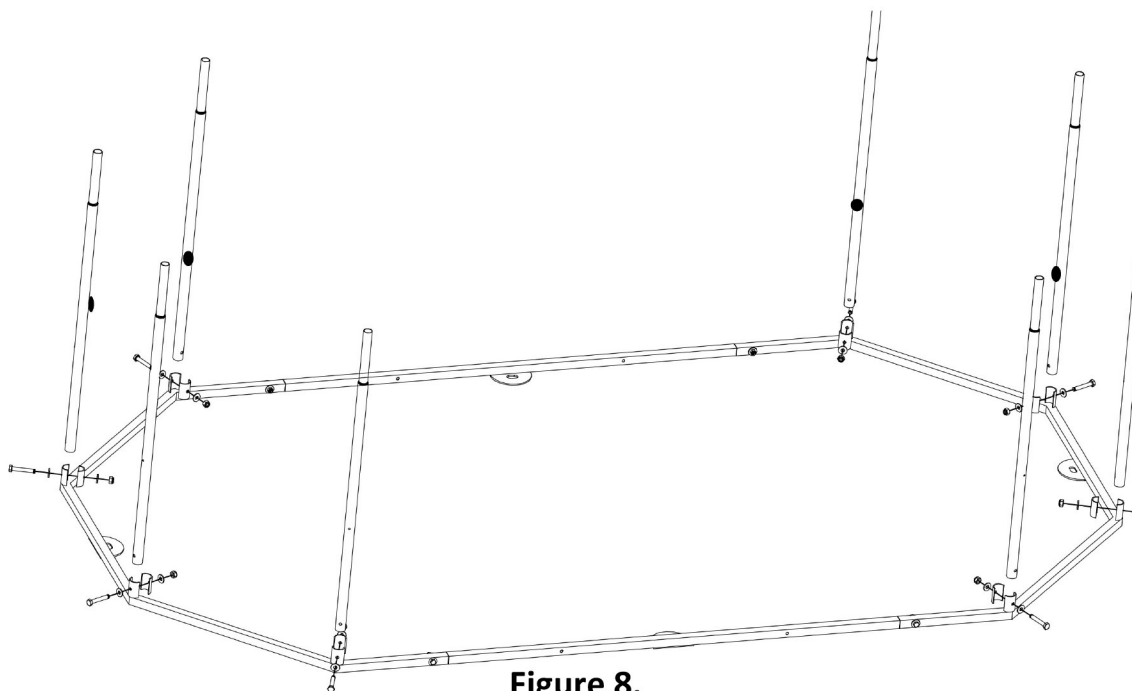

Figure 8.
Step 8. Install all the short uprights to the bottom main frame using eight $\frac{1}{4}$ " x 1-3/4" socket head bolts, eight nuts, **no washers under the head of bolt or nuts**. Make sure the black versa buttons are facing the inside of the blind as seen in Figure 8. Tighten all bolts on the assembly.